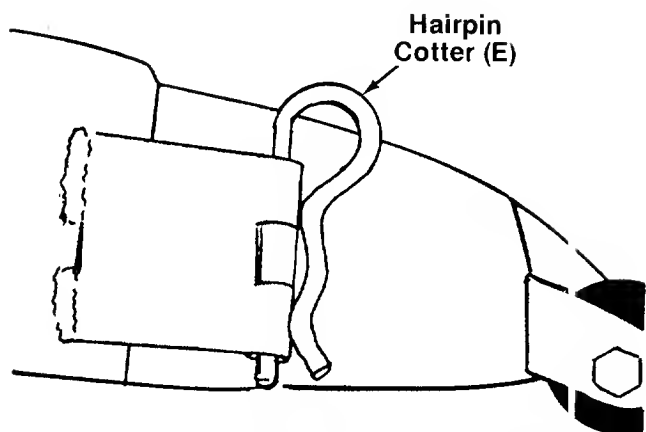

FIGURE 11.—30" Side Discharge Deck
Secure the **chute deflector** to the deck by placing the **large hairpin cotter (E)** in the **chute deflector bracket**, located on the front of the deck. See figure 11.